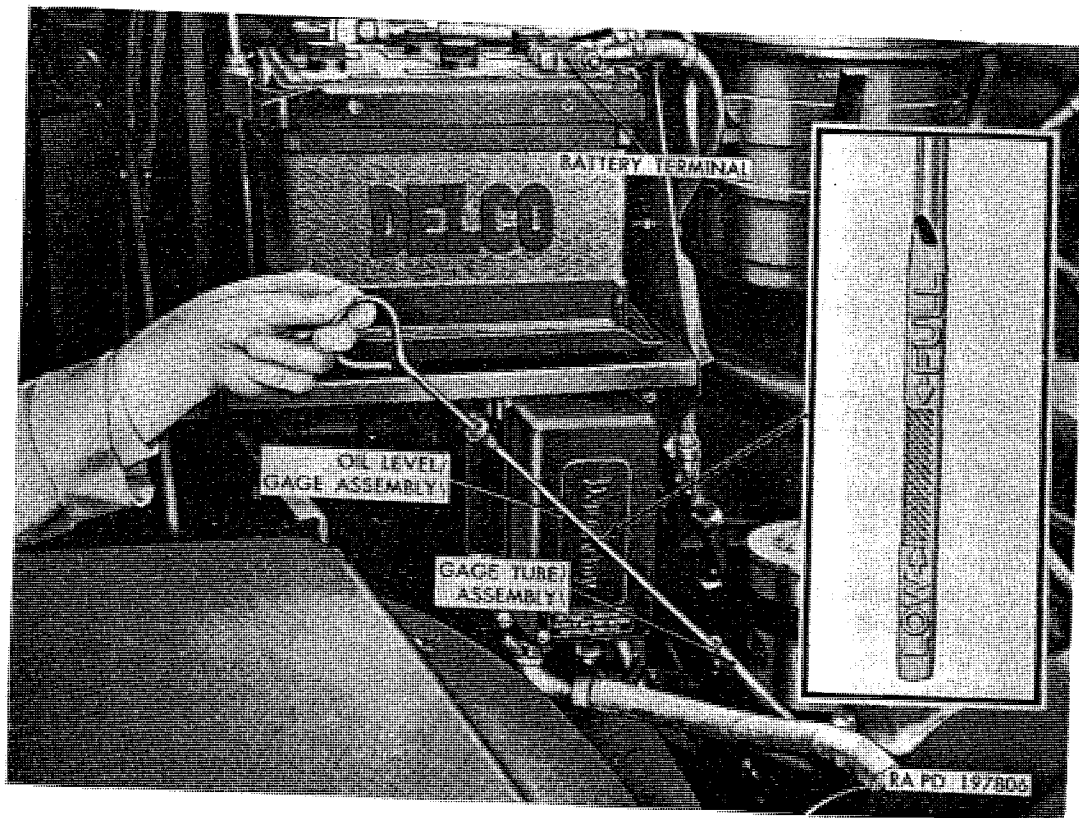

Figure 91. Checking crankcase oil level.
a. General. Engine crankcase is equipped with a bayonet-type oil level gage for use in checking crankcase oil level. Gage is marked FULL and LOW (fig. 91). Plug in oil pan cover (D, fig. 81) is magnetic-type and is removed to drain engine oil from crankcase. Refer to lubrication chart (par. 69) and accompanying notes for type and viscosity of oil to be used in crankcase, as well as intervals for checking and changing oil.
b. Oil Level Gage Tube. If oil level gage tube assembly (fig. 91) is not installed correctly, the gage may strike battery terminal when withdrawn to check crankcase oil level. This causes a short circuit. To prevent short circuit of this nature, make corrections described in (1) and (2) below.
(1) Loosen the gage tube retaining nut at oil pan; then turn tube to move upper end toward distributor. Tighten tube retaining nut.
(2) Inspect battery cable terminal; if terminal protrudes over edge of battery, loosen terminal clamp bolt and position so cable will run parallel to battery toward engine.
c. Checking Crankcase Oil Level (fig. 91). Check crankcase oil level when engine is thoroughly warmed up and after engine is stopped. Allow sufficient time after stopping for oil to drain back into oil pan.